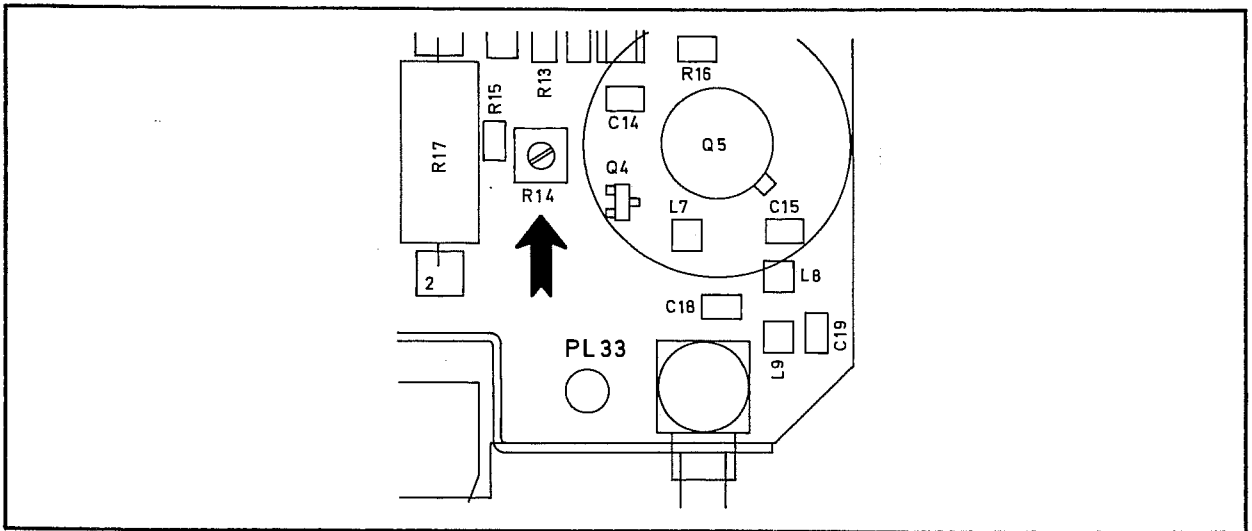

Fig. 7.9 Location of R14
- (5) Adjust R14 on the LO Synthesizer until the Power Meter reads +22 dBm $\pm$ 0.1 dBm. See Fig. 7.9 for the location of R14.
- (6) Set the LO to each of the frequencies shown in Table 7.3 and check that the output level is as shown, and that the 2101 display reads '0'.